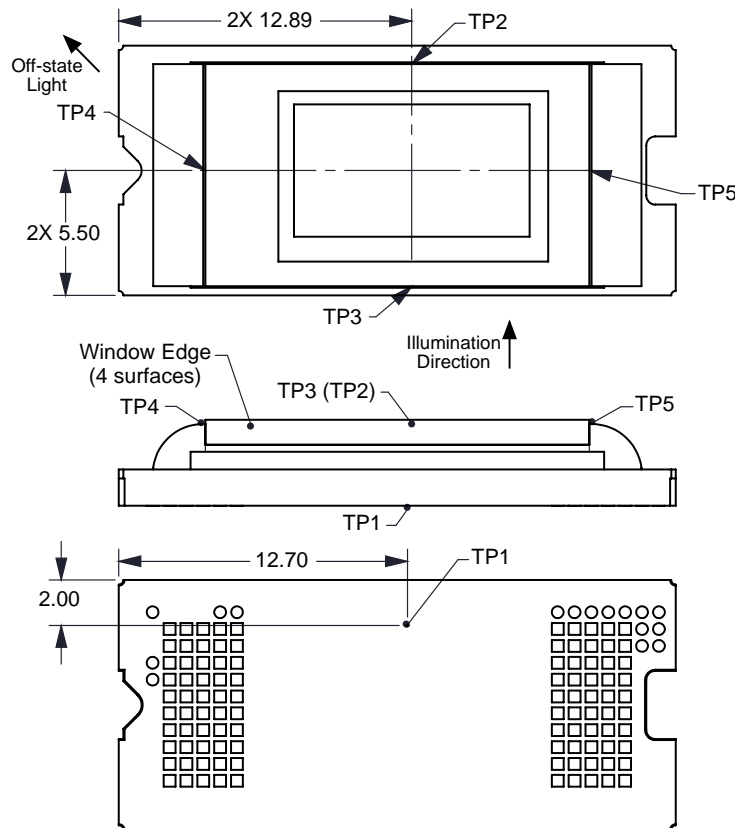

Figure 18. DMD Thermal Test Points
- $T_{\text{CERAMIC}}$  = Measured ceramic temperature (°C), TP1 location in Figure 18
- $Q_{\text{ARRAY}}$  = Total DMD power; electrical plus absorbed (calculated) (W)
- $Q_{\text{ELECTRICAL}}$  = Nominal DMD electrical power dissipation (W)